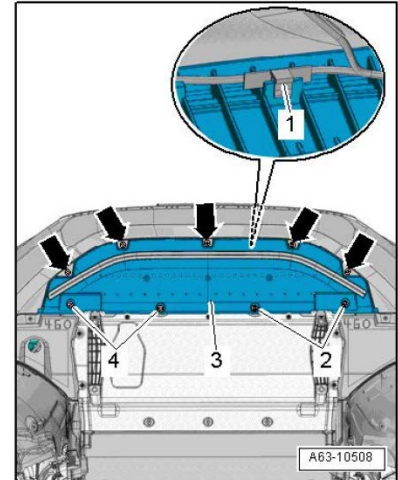

Figure 3. Closure plate for bumper cover (3).
1. Remove closure plate for bumper cover (Figure 3)